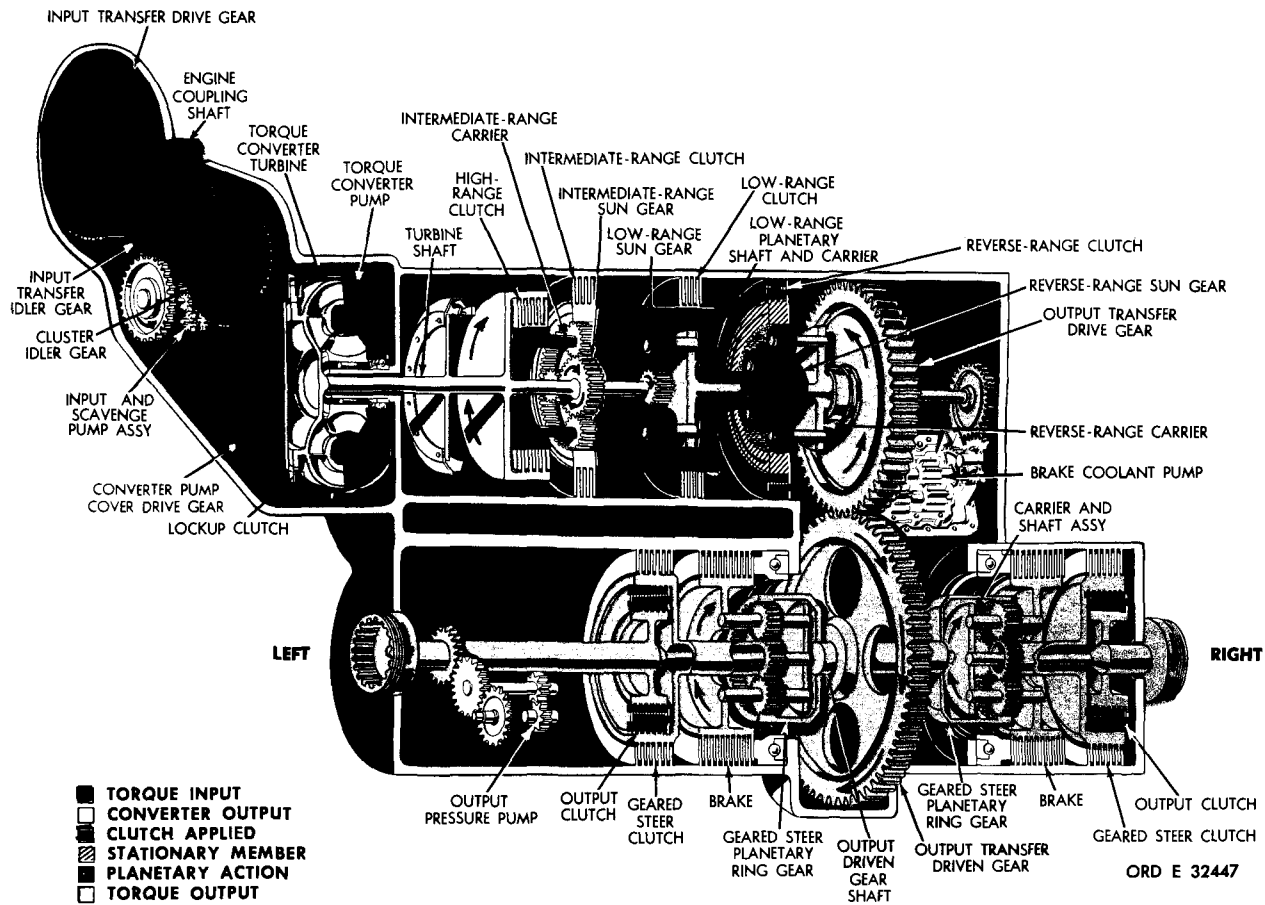

Figure 28. Reverse 2-gear torque path, converter operation
52. TORQUE PATH - REVERSE 2 GEAR, CONVERTER OPERATION (fig. 28)